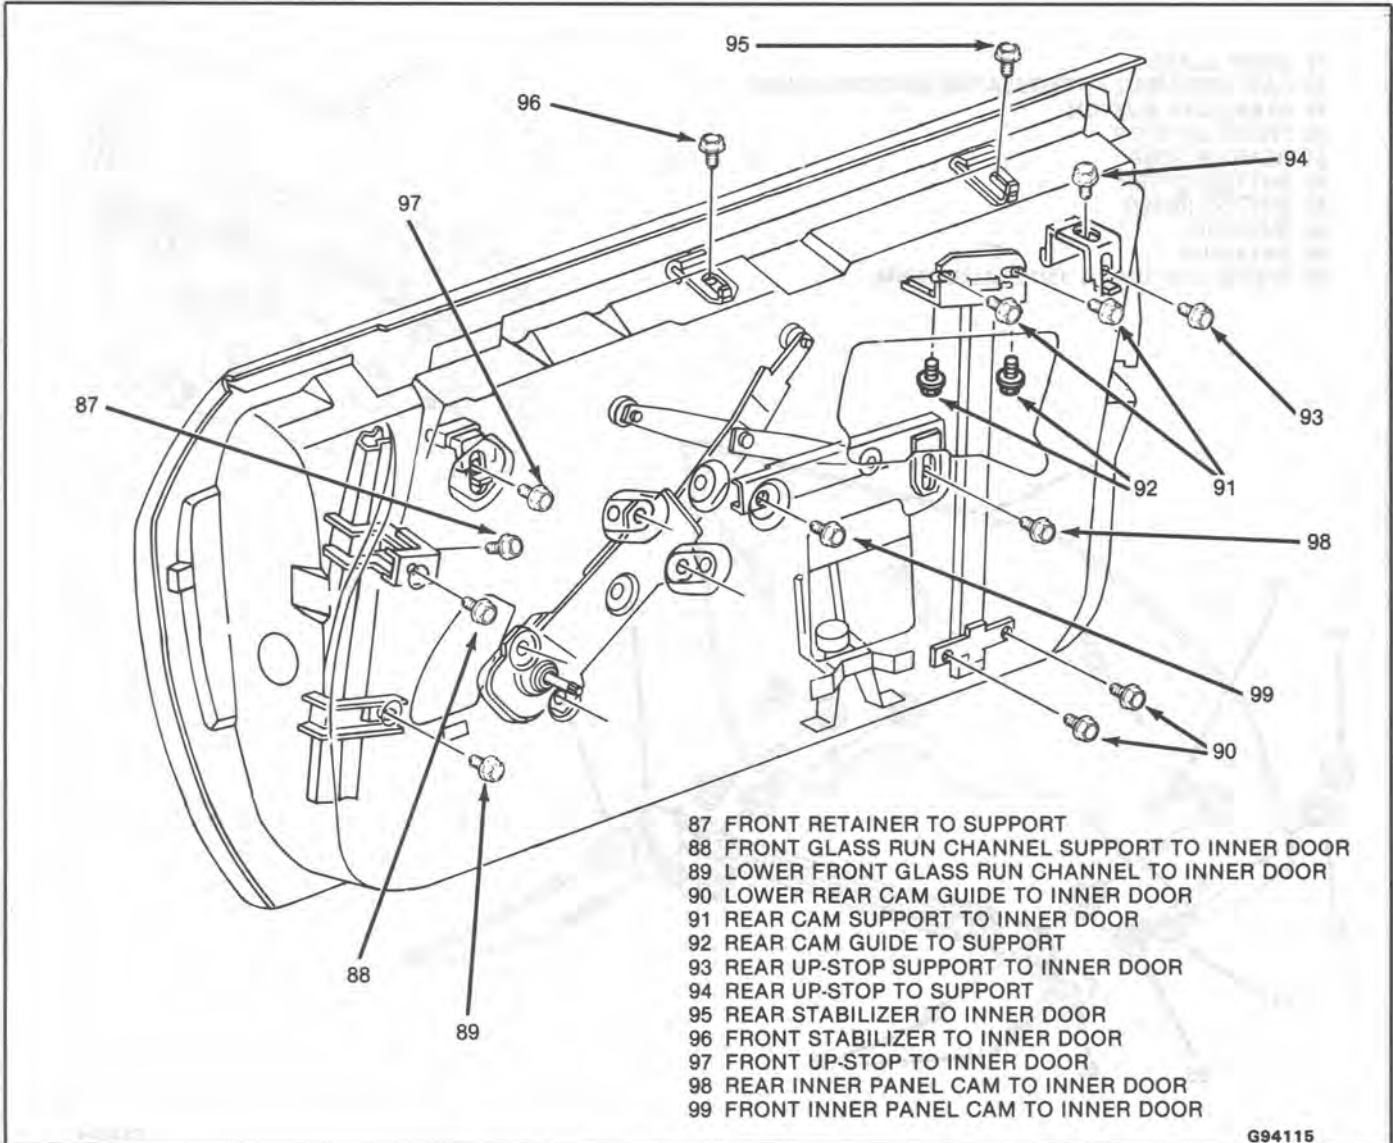

Fig. 23-Door Hardware Attaching Bolts
**Adjust (Figure 23)****Window rotated**
- Loosen front retainer bolt (87)
- Loosen rear cam guide to support bolts (92)
- Loosen rear up-stop (93)
#### ↔ Remove or Disconnect (Figure 23)
#### ↔ Install or Connect (Figure 23)